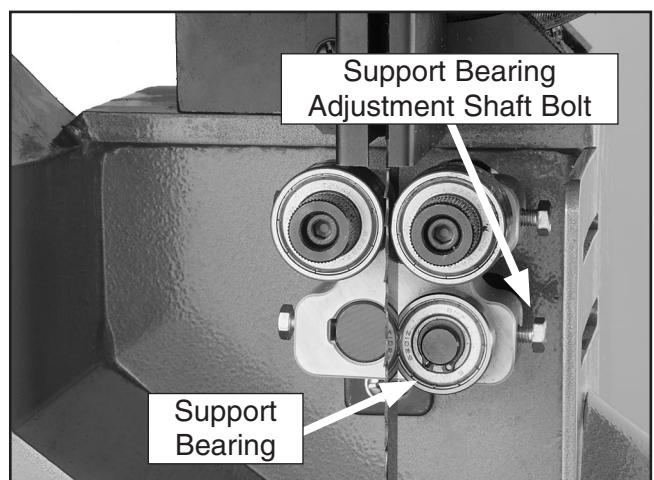

Figure 30. Lower support bearing controls.
3. Familiarize yourself with the lower support bearing controls shown in **Figure 30**.